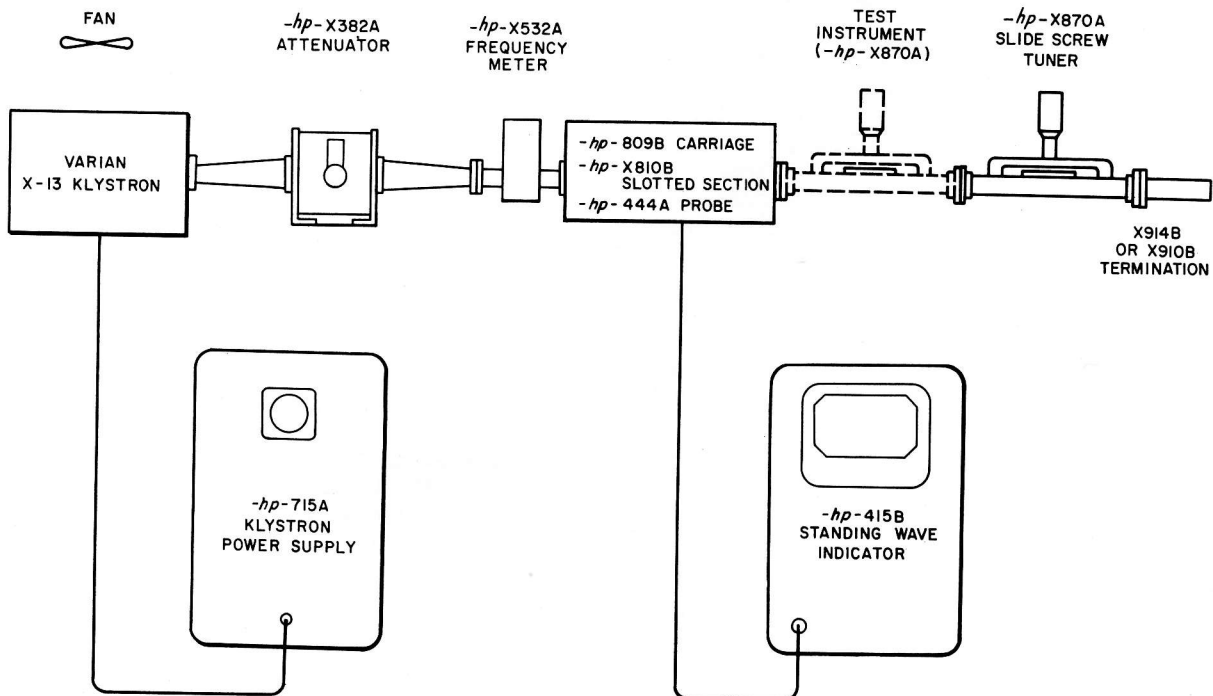

Figure 7-1. X870A Slide Screw Tuner Check
1) Connect the equipment as shown in Figure 7-1. Throughout this procedure, the X870A being calibrated will be referred to as the "X870A under test". The
- 1) Connect the X870A under test to the X810B Slotted Section as shown in Figure 7-1. Omit the calibrating X870A Slide Screw Tuner from the setup.